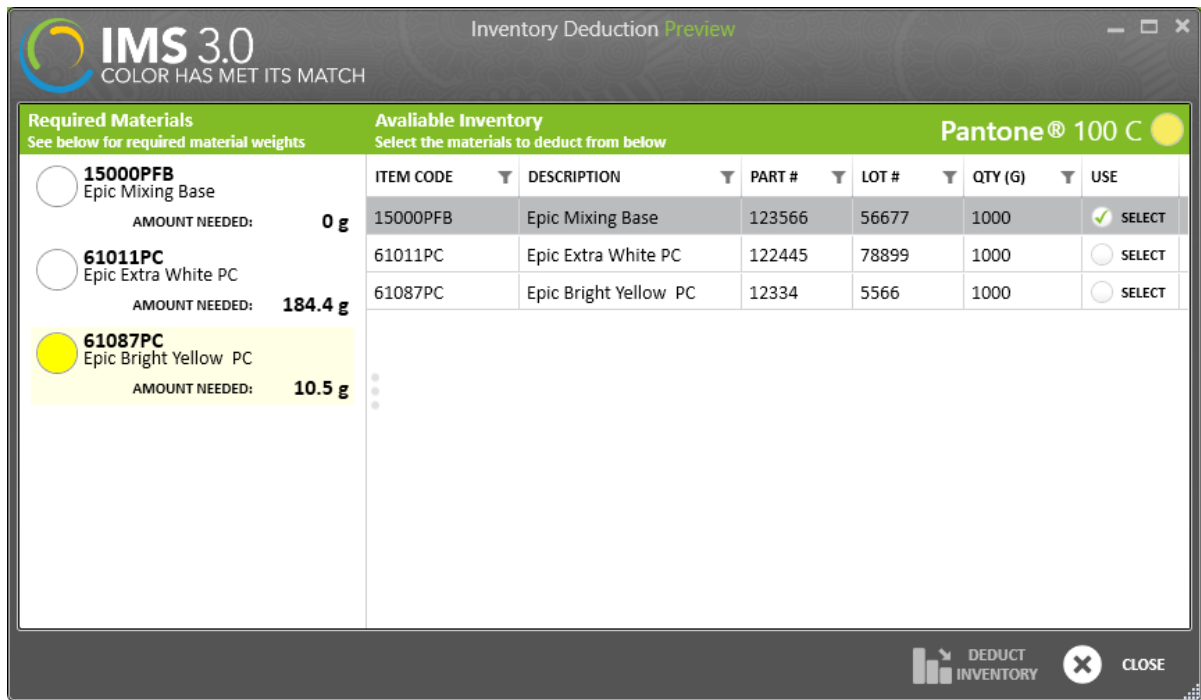

Figure 30 Selecting Items to deduct from inventory
4. To begin deducting the required amount for each ingredient, check off the “SELECT” check boxes under the “USE” column in the table. (Figure 30)